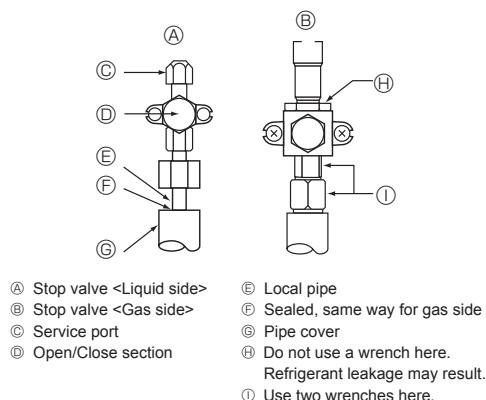

Fig. 4-5
4.4. Refrigerant pipe airtight testing method (Fig. 4-5)
- Make sure the stop valves ④ ⑤ are closed and do not open them.
- Add pressure to the refrigerant lines through the service port ⑦ of the liquid stop valve ④.
- If the pressure decreases in steps (2) or (3), there is a gas leak. Look for the source of the gas leak.